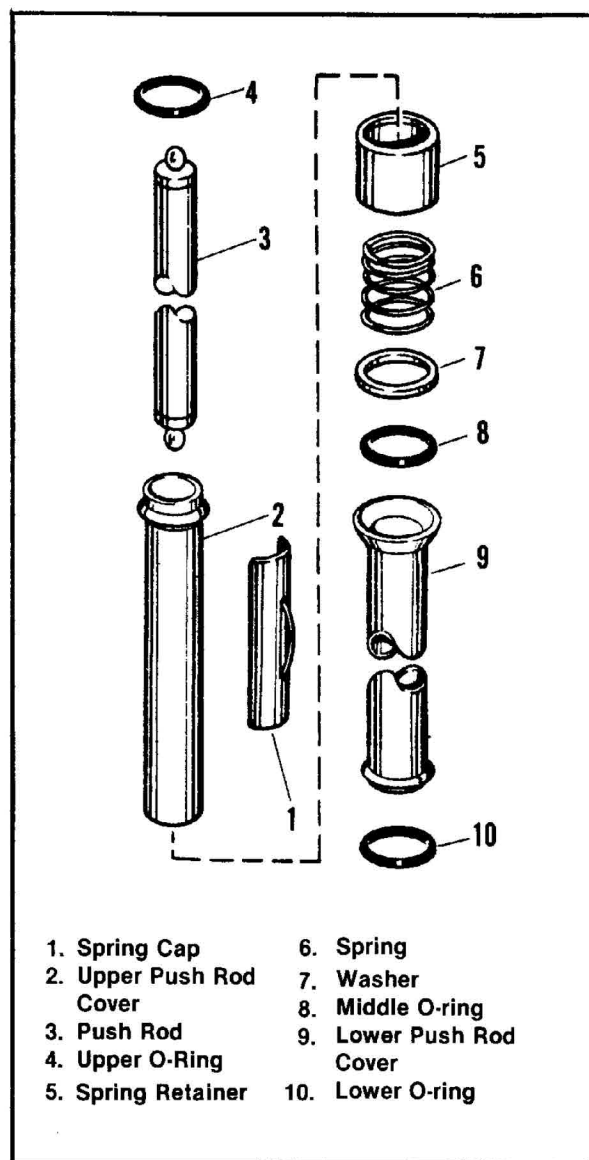

Figure 1. Push Rod Assembly
1. See Figure 1. Remove the spring cap (1) on the front cylinder exhaust push rod. Lift up the lower push rod cover (9) to expose the adjusting screw.
3. See Figure 1. Remove the upper push rod cover (2) from the push rod assembly.
4. Place a lengthened push rod cover, part number 17935-79A over the push rod and assemble items 2-10 as shown in Figure 1.
6. Install the spring cap (1, Figure 1).
If the new lengthened push rod cover is not readily available, old style push rod cover, part number 17935-66 may be used instead, providing a cork gasket, part number 17955-36 is substituted for the upper O-ring (4, Figure 1).